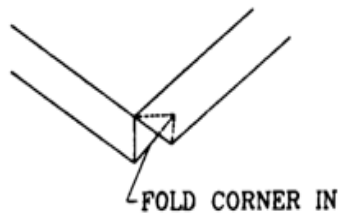
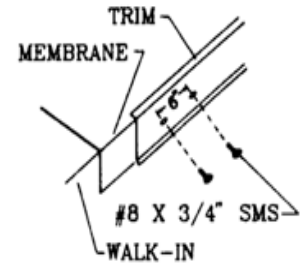
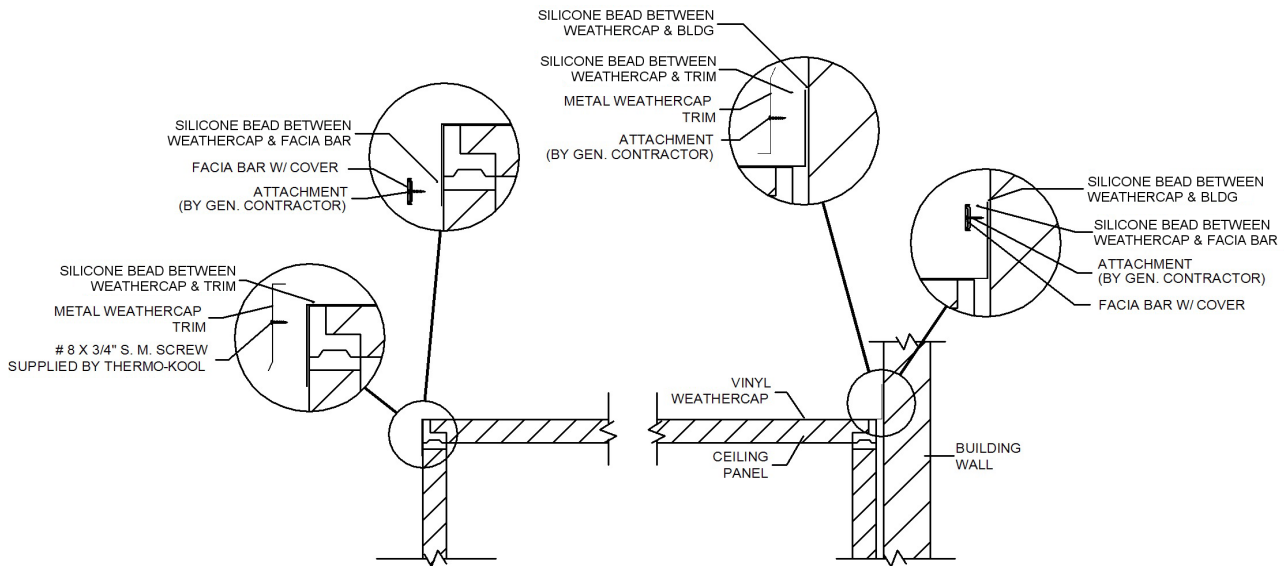

Figure 22 - Vinyl Weathercap End Piece
Figure 23 - Flashing Trim End Piece
FIGURE 24 - WALK-IN VINYL WEATHERCAP SECTION
- Once the attachment of the vinyl weathercap has been completed, fold the corners of the vinyl roof cap as shown (Refer to Figure 22) and install flashing trim (Refer to Figure 23) around the perimeter of the walk-in, using #8 x 3/4" sheet metal screws spaced 6" on center (Refer to Figures 23 and 24). Seal the top edges of flashing trim to the vinyl roof (Refer to Figure 24).